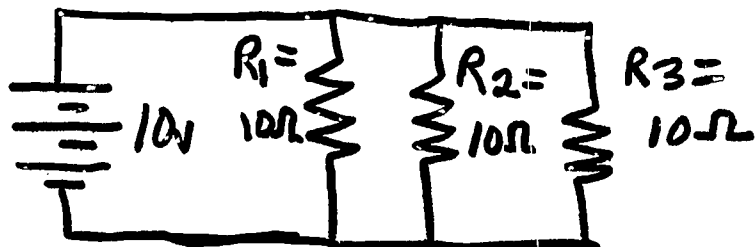

Fig. 13
*If R_3 were removed from Fig. 13, the current in R_2 would